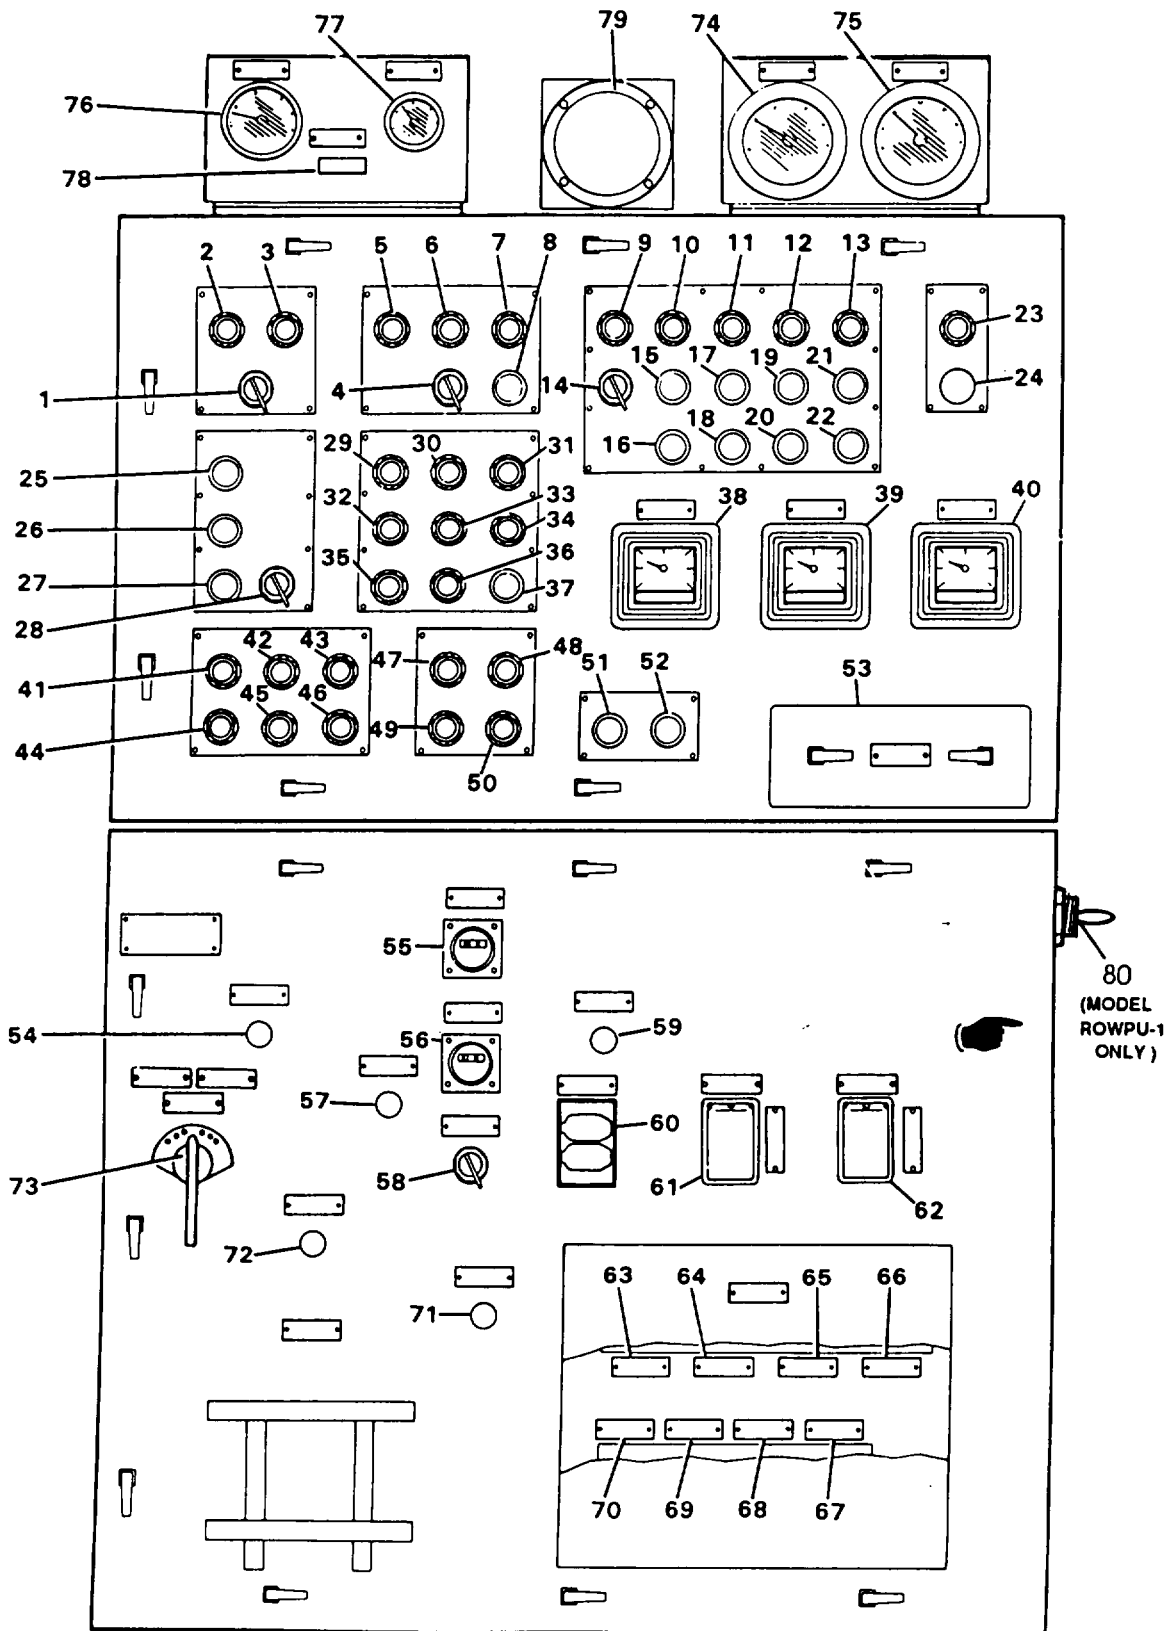

Figure 2-4. Main Control Panel Controls and Indicators
b. *Main Control Pane.* The main control panel contains most of the electrical controls and Indicators for the ROWPU. These controls and indicators are shown in Figure 2-4 and listed in Table 2-3.
(Item numbers are keyed to Figure 2-4)